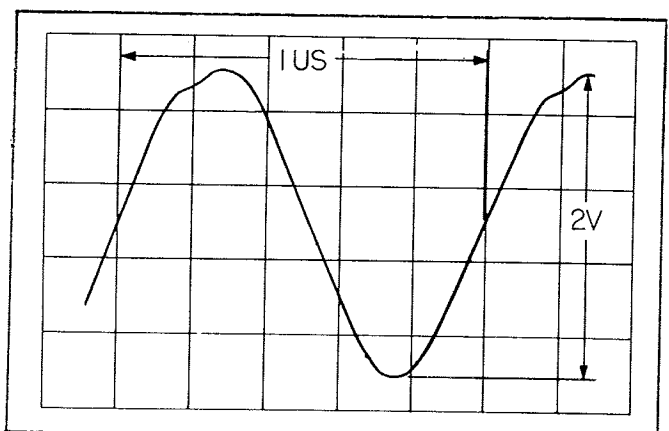

Figure 6.7 - Frequency Standard, Output at P43, Waveform
of Frequency Standard. The observed 1 MC waveform should resemble the one shown in figure 6.7.
b. Connect oscilloscope to the common tie point of R70 and JA3. Adjust AMPL. ADJ control on frequency standard for 1 MC waveform shown in figure 6.7.